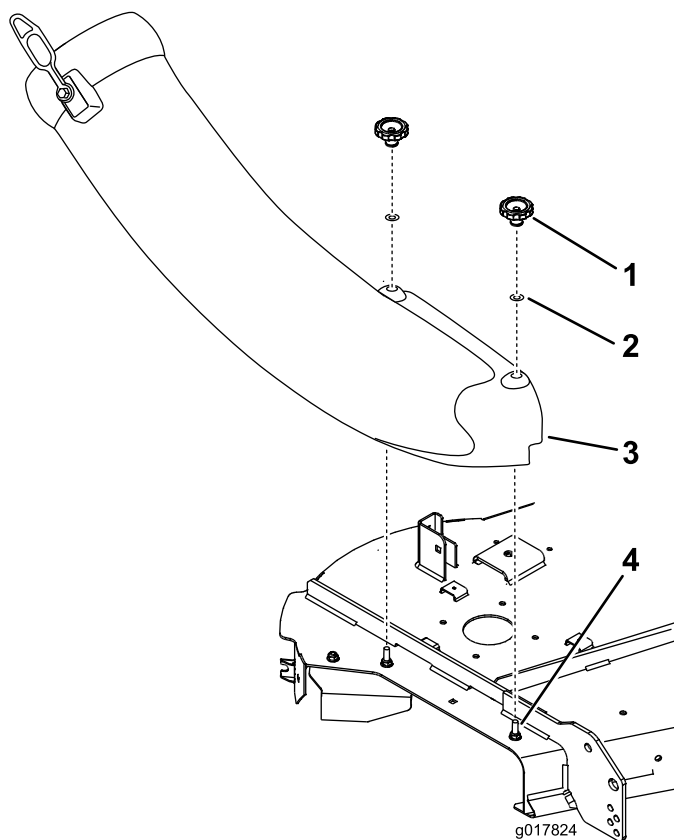

Figure 21
5. Align the holes in the chute and install it onto the bolts. Secure the chute to the mower deck with the two knobs and flat washers (5/16 inch) (Figure 21).